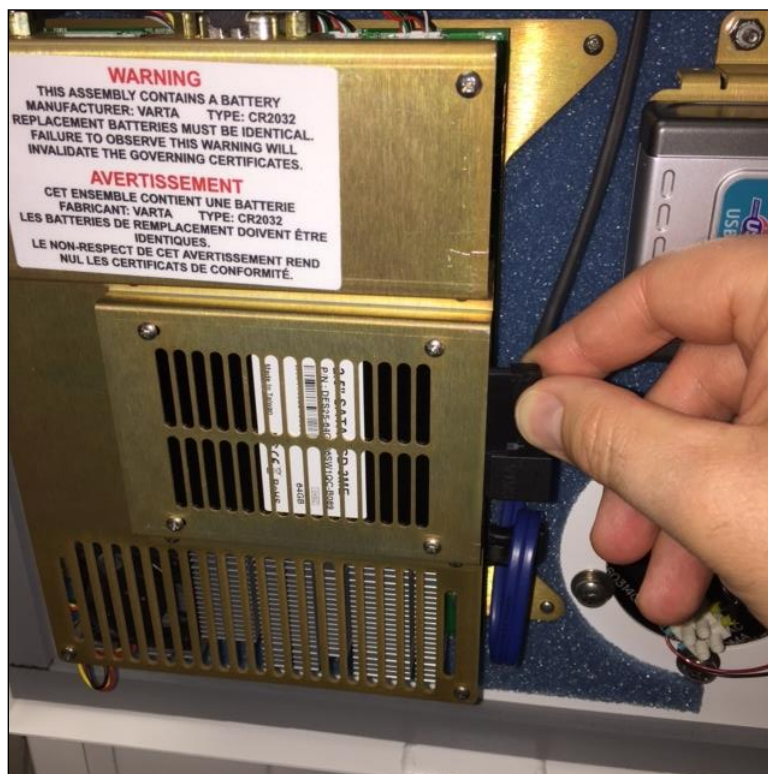

Figure 138. Disconnect hard drive power cable
7. Disconnect the hard drive power cable from the right side of the computer assembly (Figure 138).